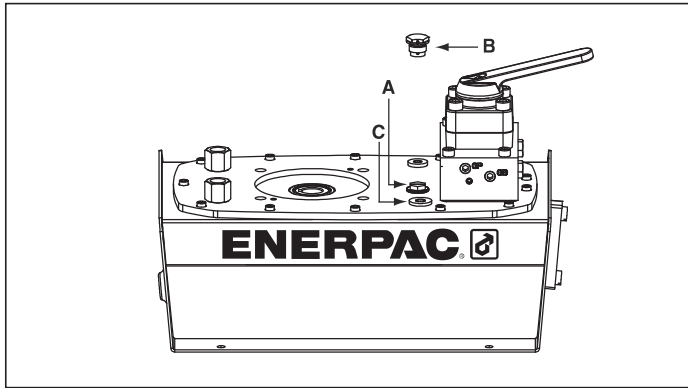
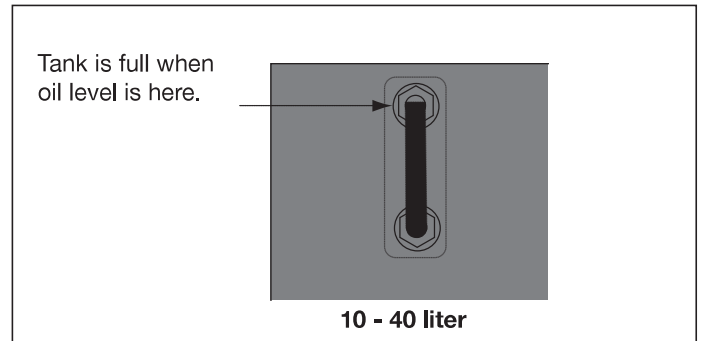

Figure 2, ZG Breather Installation
Figure 4
### 4.1 Reservoir Breather Cap (See Figure 2)
Check the oil level of the pump prior to start-up, if necessary add oil by removing the SAE #10 plug from the cover plate (see Fig. 2). The reservoir is full when the oil level reaches the top of the sight glass. (Fig. 4).
Check the oil level of the pump prior to start-up, and add oil, if necessary, by removing the fill port cap. Always be sure cylinders are fully retracted before adding fluid to the reservoir. See Figure 2.
6. Fill the reservoir with clean Enerpac hydraulic oil. The reservoir is full when oil level is in middle of the sight gauge (see figure 4).